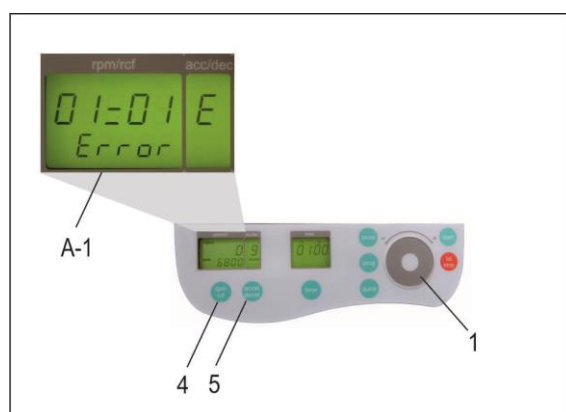

Figure 11
The list of the last 99 error messages can be looked over by pressing the key "rpm/rcf" (4) and leaf through it with the control field (1). The respective error codes appear in the display "rpm/rc" (A-1) (see Figure 11). The first two numbers indicate the appeared errors ongoing from 00 to 99, the last two numbers indicate the error code. Please refer to, "Table 4: " (see APPENDIX p. V)